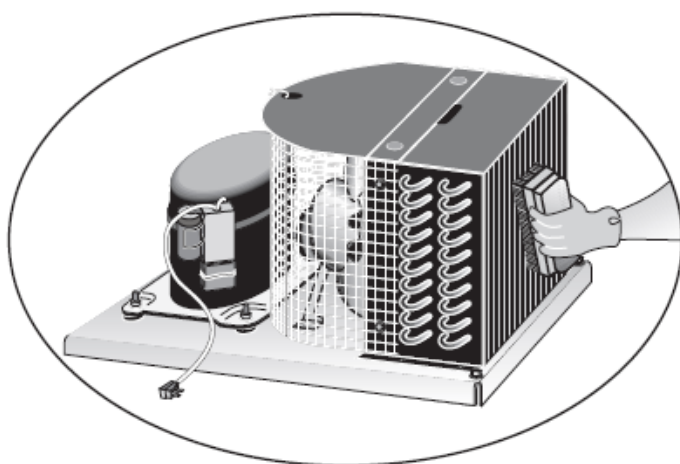

Fig. 2. With a stiff bristle brush, carefully clean accumulated dirt from the front condenser coil fins.
3. With a stiff bristle brush, carefully clean accumulated dirt from the front condenser coil fins See fig. 2.